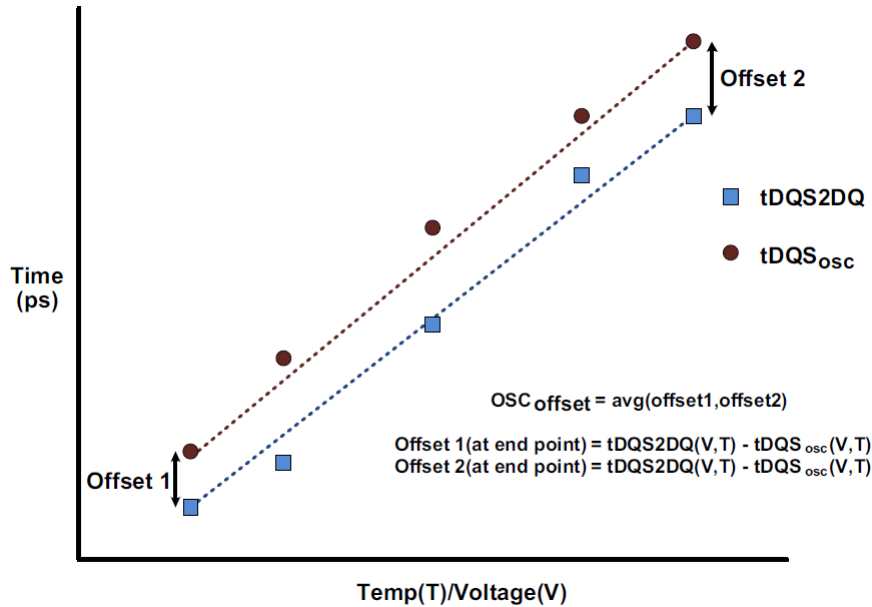

Figure 116: Interval oscillator offset OSC offset
- OSC_{Offset} : Average delay difference over voltage and temp(shown in Figure 116)